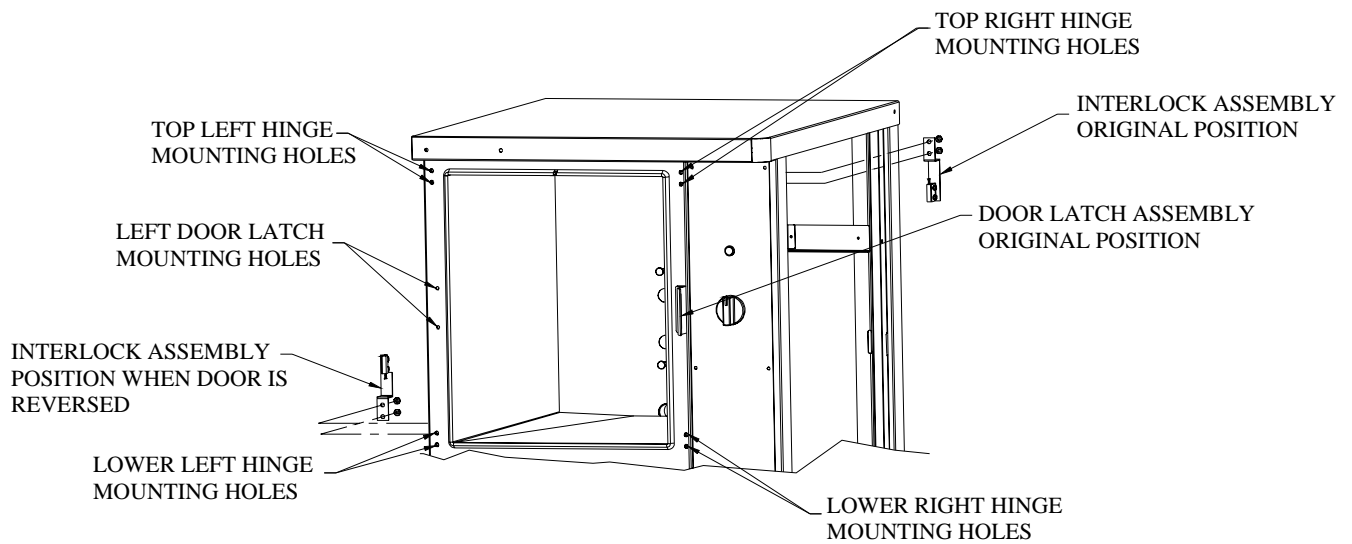

Figure 2-1. TYPICAL DOOR LAYOUT
7. Remove the door interlock assembly by unscrewing the two nuts that hold it in place (assembly is attached to the screws in the top right hinge mounting holes, see fig 2-1).
9. Using the nuts removed in step #6, reinstall the door interlock assembly onto the 2 (two) screws in the lower left hinge mounting holes (See Fig 2.1) by moving the assembly over the cooking compartment to the other side of the unit. **Rotate the door interlock assembly 180° for installation**, so that the switch is now facing up..
11. Remove the door latch assembly from the face of the unit. The two (2) nuts mounting the door latch are located behind the face of the unit and must be accessed where the rightside panel was removed.
12. Remove the two (2) white hole plugs from the left door latch mounting holes, and insert them into the right door latch mounting holes (where the door latch assembly was originally mounted).